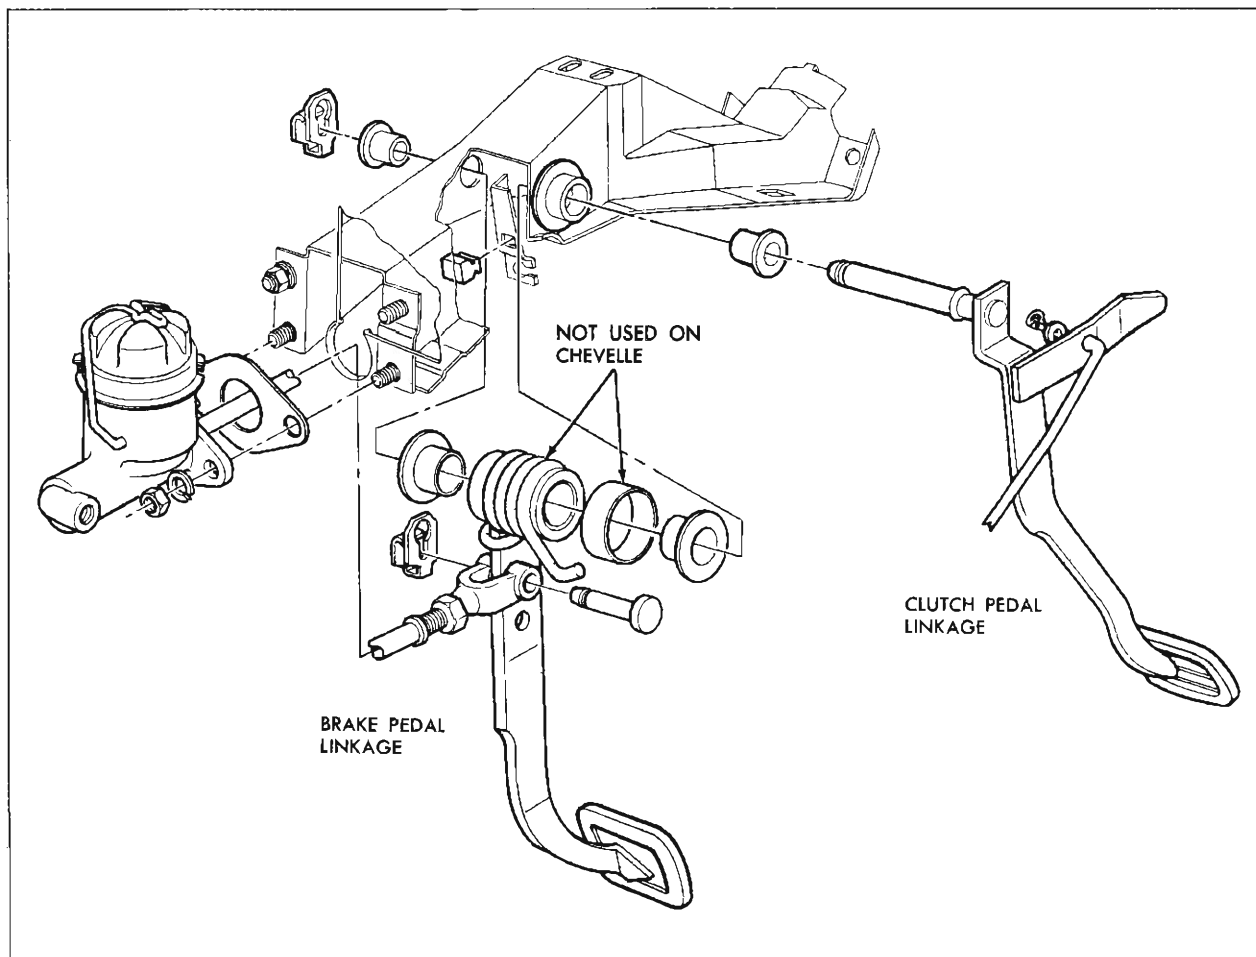

Fig. 17—Clutch and Brake Pedal Installation
2. Disconnect clutch push rod at clutch pedal (fig. 17).